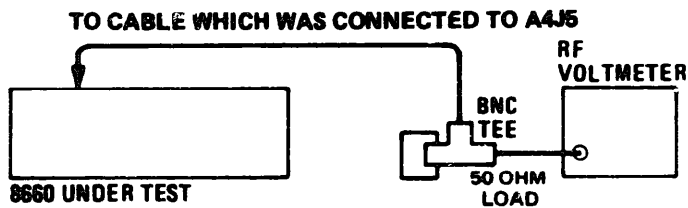

Figure 5-27a. A22A1 Adjustment Test Setup
3. Remove 5/10 MHz Reference input cable from A4J5. Connect the cable to the RF Voltmeter as shown in Figure 5-27a.